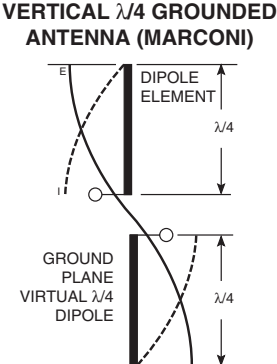

Figure 25: Dipole Antenna
4. In many antenna designs, particularly 1/4-wave whips, the ground plane acts as a counterpoise, forming, in essence, a 1/2-wave dipole (Figure 25). For this reason, adequate ground plane area is essential. The ground plane can be a metal case or ground-fill areas on a circuit board. Ideally, it should have a surface area less than or equal to the overall length of the 1/4-wave radiating element. This is often not practical due to size and configuration constraints. In these instances, a designer must make the best use of the area available to create as much ground